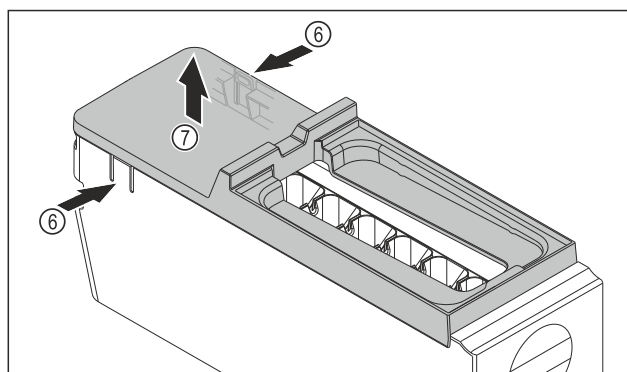

Fig. 184
- ▶ Removing the cover of the EasyTwist-Ice body: With one hand, press the tabs Fig. 184 (6) on both sides of the EasyTwist-Ice body.
- ▶ With the other hand, remove the cover Fig. 184 (7) upward.